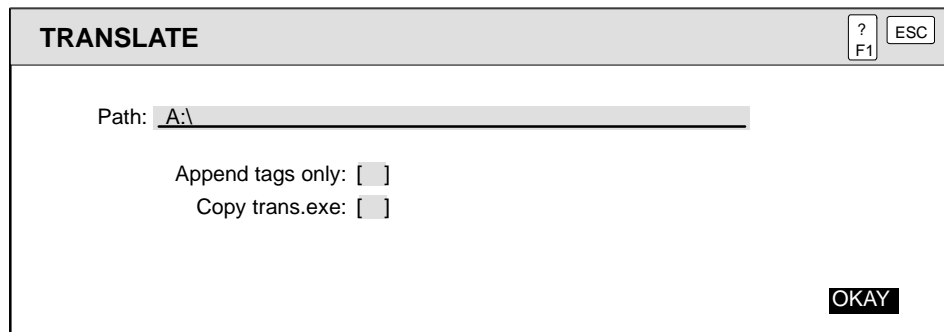

Figure 8-10 Offline Tag Translation to TISTAR
2. Press **L** or use the **OPTs** icon to select **Translate**. Figure 8-10 shows an example dialog box.